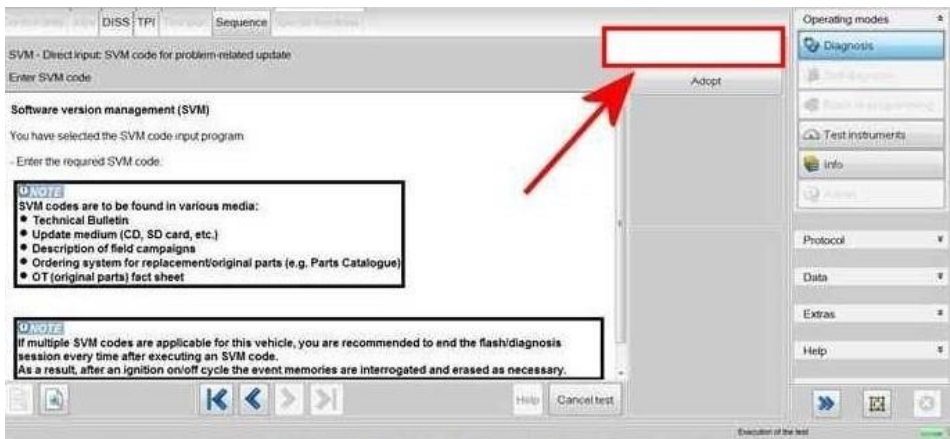

Figure 2
4) Referring to Figure 2 - Enter SVM code **370FTM01**